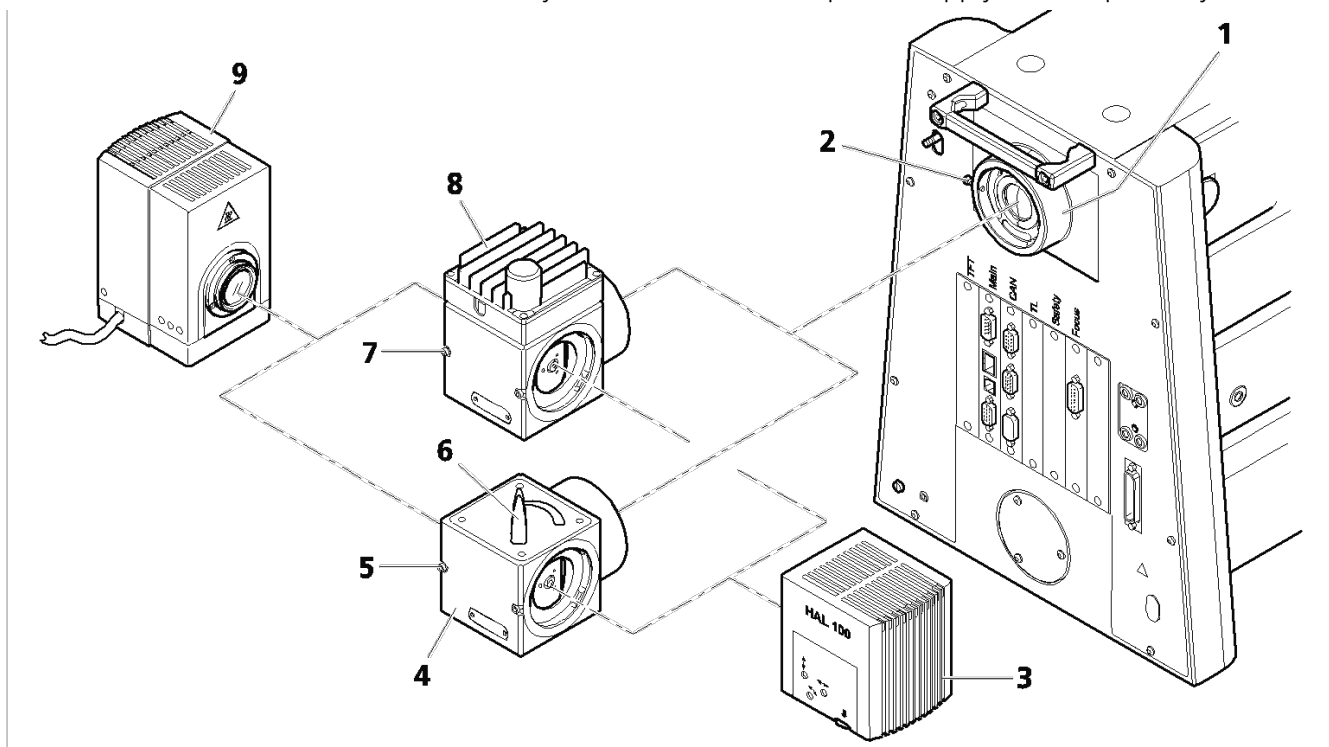

Fig. 57 Installing the switching mirror
The switching lever (Fig. 57/6) on the upper side of the manual switching mirror serves to switch manually between the two illuminators.
- If necessary, remove the illuminator if already mounted. To do so, grip the illuminator firmly and loosen the clamping screw (Fig. 57/2) on the reflected-light socket (Fig. 57/1), using ball-headed screwdriver AF 3.
- Insert the switching mirror (Fig. 43/4 or 8) with the dovetail ring into the socket (Fig. 57/1). Align it (with the mounts for the two illuminators pointing to the right and left, respectively) and fix it with the clamping screw (Fig. 57/2).
- Loosen the right and left clamping screws (Fig. 57/5 and 7, respectively) on the switching mirror. Remove the protective caps and attach the two illuminators, e.g. HAL 100 (Fig. 57/3) and HBO 100 (Fig. 57/9), to the switching mirror, in the same way as if they were mounted directly onto the microscope. Then, fasten them with the relevant clamping screw (Fig. 57/5 or 7).